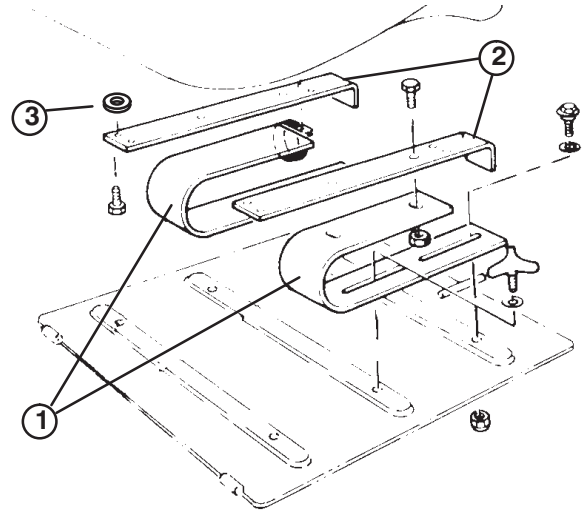

Figure 3
1. Attach “U” springs to seat mounting brackets with (4) capscrews and flange nuts as shown in figure 3.
2. Secure seat mount assemblies to bottom of seat with (4) flange head capscrews and (4) spacers (Fig. 3). Spacers to be positioned between seat and seat mount.
5. Mount seat and spring assembly to rear holes in seat mounting plate with two shoulder bolts, small I.D. flat washers and locknuts (Fig. 3 & 6).
6. Secure front slot of seat springs to traction unit front mounting holes with adjustment handles and flatwashers (Fig. 3 & 5).